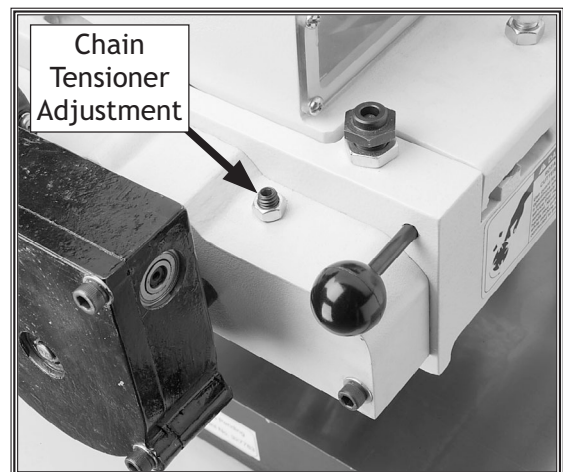

Figure 59. Chain tensioner.
3. Loosen the tension adjuster jam nut (Figure 59).